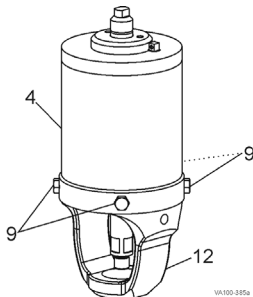

Figure 32: Remove Yoke
1. Remove the cap screws (Figure 32, item 9) and pull the yoke (item 12) from the actuator cylinder (item 4).